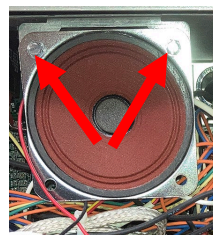

Figure 21
13. Remove the two (2) screws attaching the speaker to the bracket (see Figure 21).